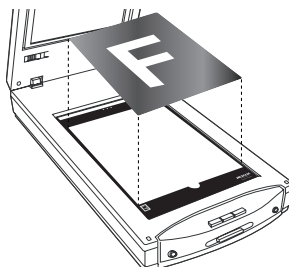

Figure 2
- For cephalometric film, use the Cephalometric X-Ray Film Holder (Figure 2).